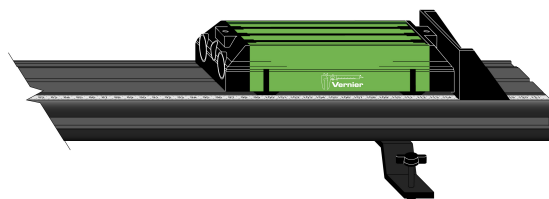

Figure 1
- Position the end stop on the track so that when the cart runs into it, the cart will have moved a known distance (~70–85 cm) from its initial position2 (see Figure 1).